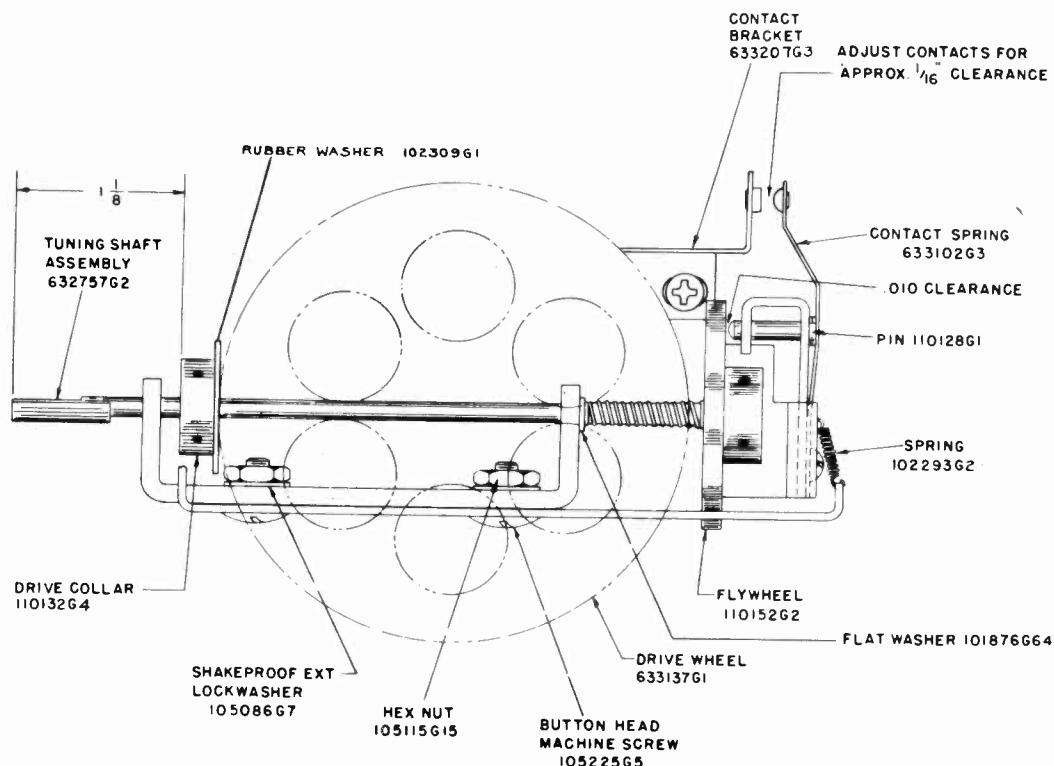

FIGURE 2
Whenever any of the mechanical parts in the condenser gang drive assembly require replacement due to rough handling or for any other reason, it is extremely important that clearances and adjustments shown on Figures 2 and 3 are correct; otherwise, the tuning mechanism will be sluggish or it may slip during operation.
1. Assemble the Tuning Shaft, Drive Collar, Compression Spring and Flywheel in the order shown on Figure 3. The distance between the front of the Drive Collar and the front of the Tuning Shaft must be  $1\frac{1}{8}$  inches as specified on Figure 2. Install the Flywheel on the rear of the Tuning Shaft and slide it forward until it nearly touches the edge of the Drive Wheel; then tighten one of the set screws in the Flywheel.